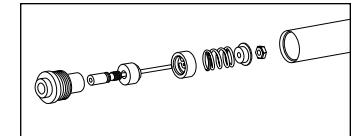

Fig. 5
- Slide the base valve off the damper rod. Note orientation of the check valve, check plate, wavy washer, and carrier. (Fig. 5)